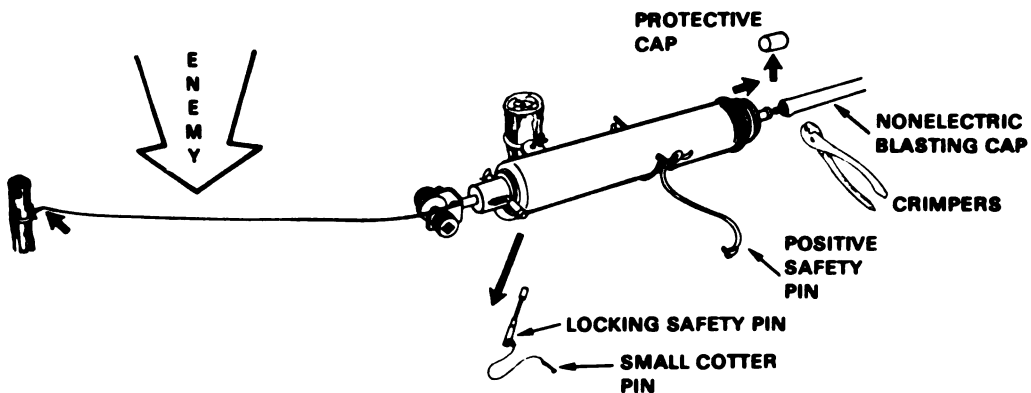

Figure 2
(1) Pull method. A pull of 6 to 10 pounds on tautwire will cause device to fire.
(2) Tension-release method. Release of tension (cutting of taut tripwire) will cause device to fire.
b. To install the M3 firing device (fig. 2).
(1) Remove protective cap.
(2) With crimpers, attach blasting cap to standard base. Crimper jaws should be placed no farther than one-fourth inch from open end of blasting cap.
(3) Attach firing device assembly to anchor (must be firm enough to withstand pull of at least 20 pounds).
(4) Secure one end of tripwire to anchor and place other end in hole in winch.
(5) With knurled knob, draw up tripwire until locking safety pin is pulled into wide portion of safety pin hole.